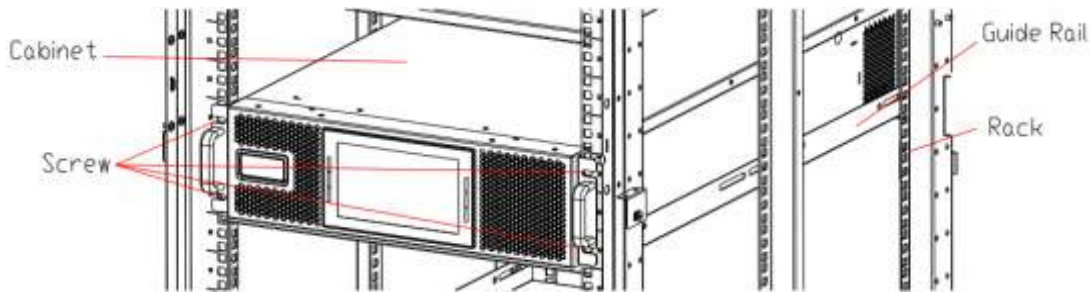

Figure 1-5 Rack Mounted Installation
- (1) Install the guide rail
- (2) Put the UPS and battery cabinet on the guide rail, fix the units to the service rack, shown as Figure1-5.